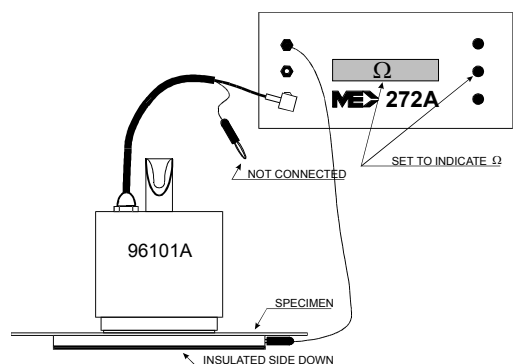

Figure 5
The Connections for unguarded measurements are given in Figure 5. Factors for converting meter readings (in Ω) directly to volume resistivity (unit $\Omega\cdot\text{cm}$) are presented in Table 1. Above information is presented as an overview of some of the complications involved in the use of the concentric or guarded ring type electrode. Either of the standards should be consulted for further details.
- 1) Arrange test setup as in Figure 5.